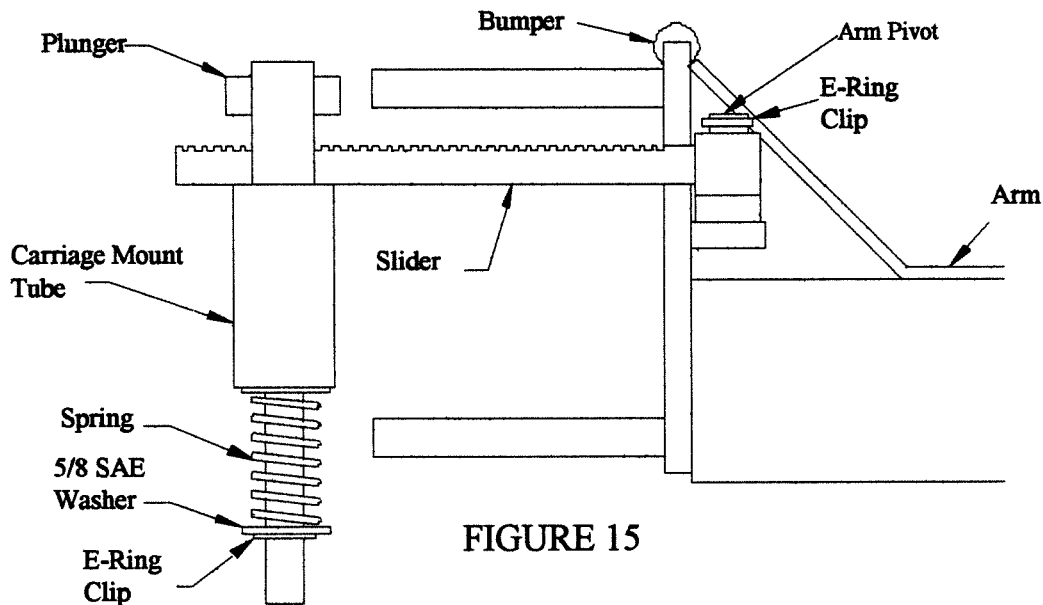

FIGURE 15
34. Install the swing arm slide locks as shown in Figure 15. The 8" bumper sliders are installed on the long swing arms.
37. Raise the lift to the top of its travel and lower it the floor three (3) times (WITHOUT A CAR) to remove the last air from the hydraulic system.
38. Install the rubber bumper onto the bumper slider on the long swing arms. Figure 15 on previous page.